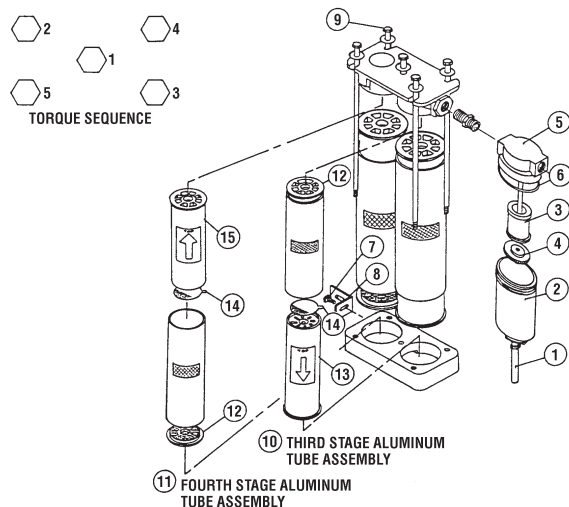

Fig. 6
5. Remove old third stage filter cartridge (13) and cap gasket (12) from the third stage aluminum tube.
8. Remove sealing label (14) and install new cap gasket on the **TOP** of the third stage aluminum filter tube assembly.
10. Remove old fourth stage filter cartridge (15) and cap gasket from the fourth stage aluminum tube.
15. Tighten manifold bolts in sequence from center outward to 100 inch-pounds (11 Nm). (Fig. 6) Repeat sequence and torque bolts to 250 inch-pounds (28 Nm). Recheck for proper torque limit.